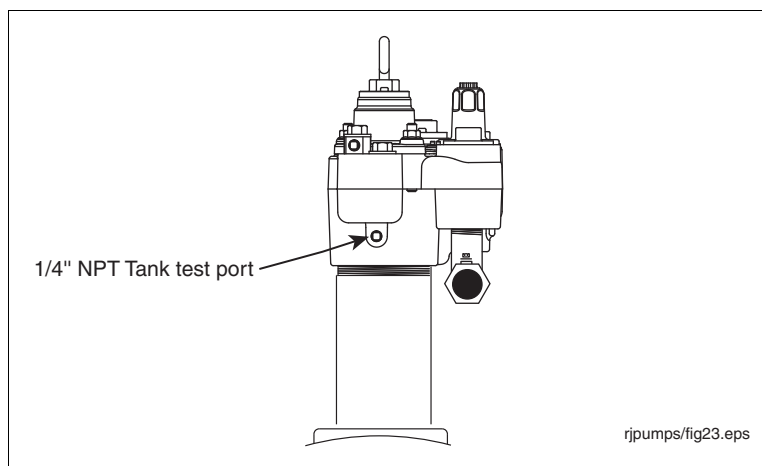

Figure 52. Tank test port on manifold
2. Remove and save the 1/4 " NPT tank test port plug and attach tank testing equipment (see Figure 52).